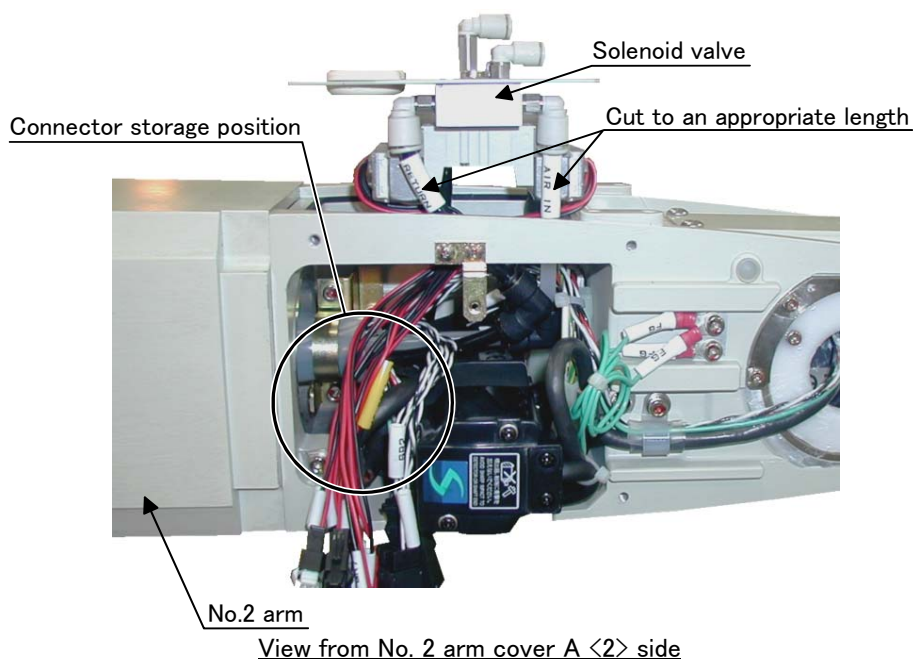

Fig.3-2 : Solenoid valve installation diagram details 1
Fig. 3-1 and Fig. 3-2 shows the solenoid valve installation procedures and the solenoid valve connector connection procedures. The installation procedures are as follow. This work must be carried out with the controller power turned OFF.
- 3) Connect the connectors of "GR1" and "GR2" stored in section A to the connectors of "GR1" and "GR2" coming out of the solenoid valves. Store the connectors near the location marked with ○ shown in Fig. 3-2.